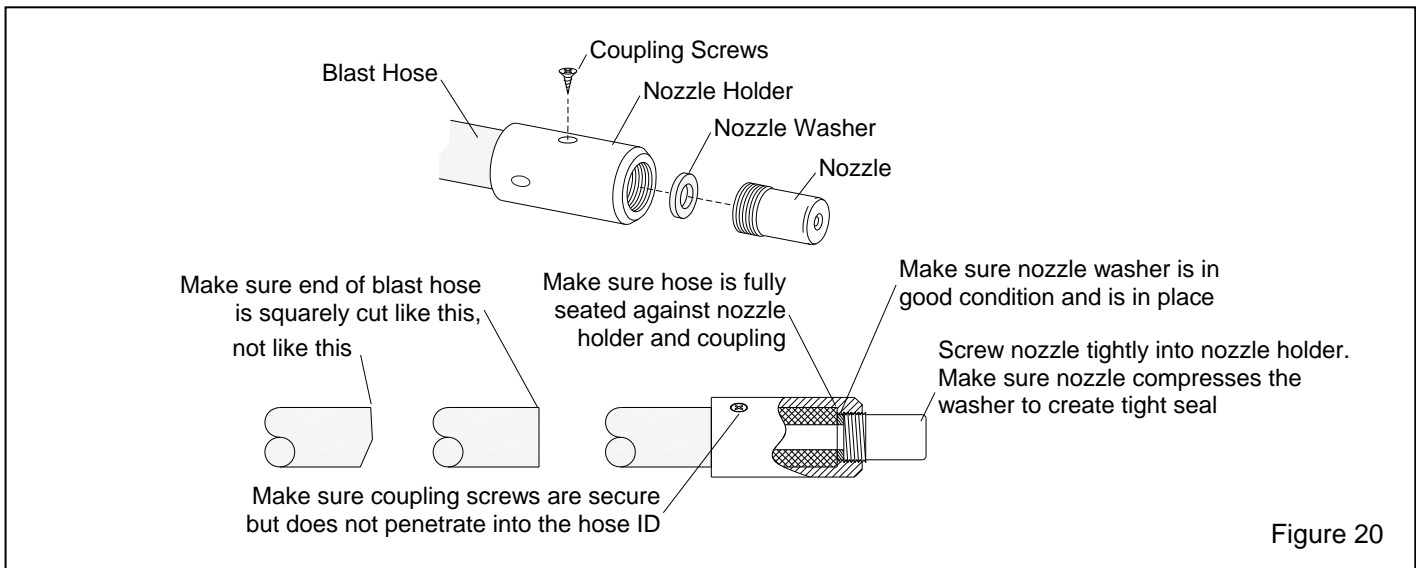

Figure 20
7.2 Blast Hose and Nozzle, Refer to Figure 20
7.2.1 When replacing blast hose make sure the hose is square cut and that it is fully inserted into the nozzle holder and coupling until it seats tightly against the shoulder in the holder and coupling as shown in Figure 20. Make sure correctly sized screws are used to secure the nozzle holder and blast hose coupling. Screws should not penetrate the inside of the blast hose.